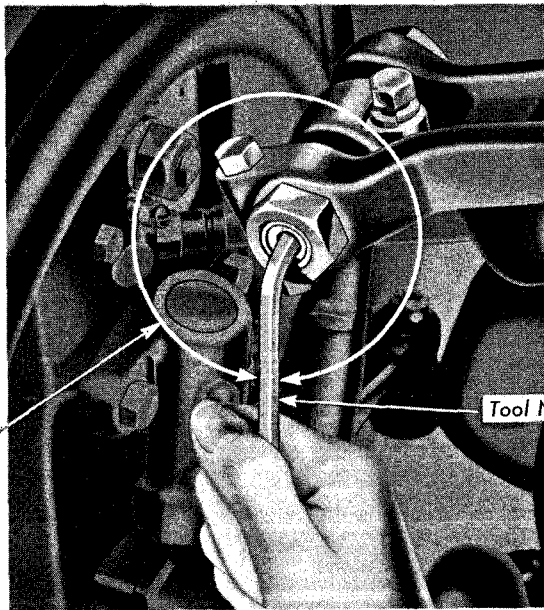

Fig. 9 Caster Adjustment
3. Insert Allen wrench, Tool J-619, through the hole from which the lubrication fitting was taken and adjust the caster by turning the threaded pin until the desired caster setting is secured, as shown in Plate 10, Fig. 9.
4. Insert Allen wrench, Tool J-619, through the hole from which the lubrication fitting was taken and adjust caster by turning the threaded pin until the desired caster setting is secured, as shown in Plate 10, Fig. 9.